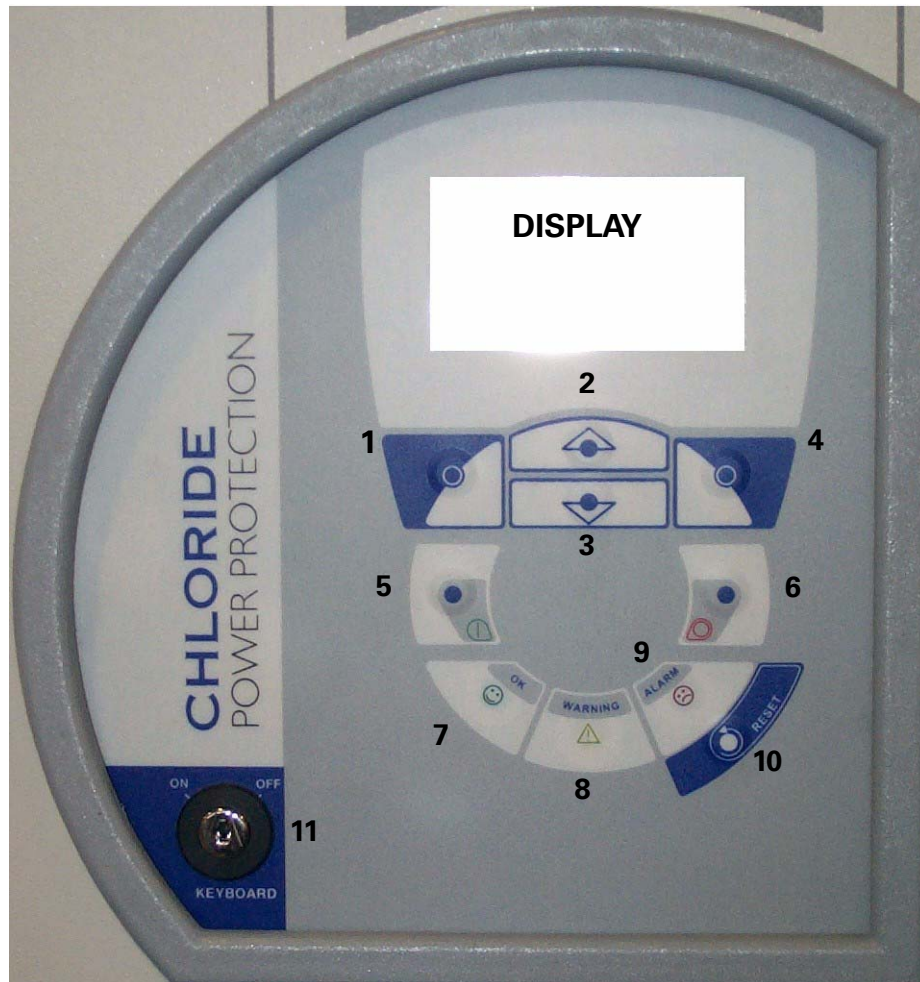

Figure 23 - Control Panel
- the two buttons at the center of the display control the main operation of the UPS (see section 8.1. on page 41 and Fig. 23 on page 41 for more information).
The Display provides the user with a range of information and functions that can be accessed using the control panel navigation keys 1 to 4 (see Fig. 23 on page 41).
The Main Page displays a block diagram of the UPS, using standard technical symbols to indicate the current operating state (e.g. on-line operation, battery operation, by-pass operation, etc.), load level, and remaining autonomy. To access the Main Menu page from the Main (default) page, press the Right soft key (key 4 - see Fig. 23 on page 41). From here you can scroll through the various sub-menus by using the Up and Down soft keys (2 and 3). Press the Right soft key to select any menu from the list, and the Left soft key (1) to return to the Main Menu page.